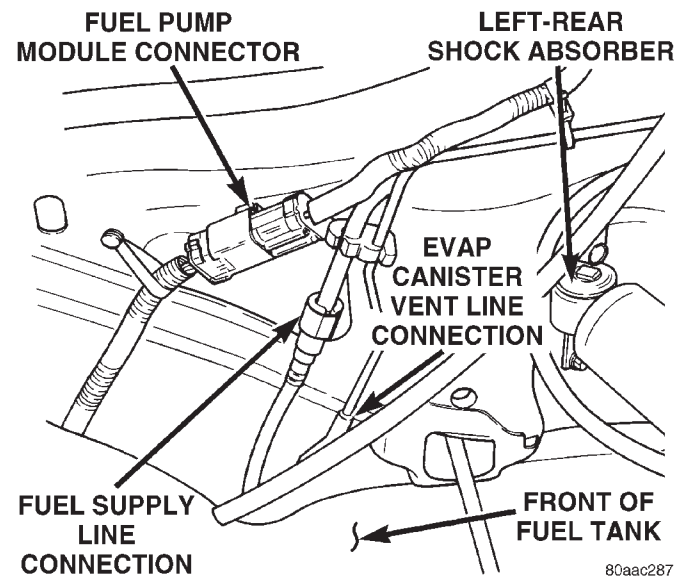

Fig. 29 Fuel Tank Connections at Front of Fuel Tank OPERATION
- (27) Verify good electrical connections at fuel pump module connector at front of fuel tank (Fig. 29).
- (28) Verify good EVAP canister vent line connection at front of fuel tank (Fig. 29).
- (29) Verify good fuel supply line connection at front of fuel tank (Fig. 29).
- (30) Inspect all fuel lines/hoses for cracks or leaks.
- (31) Inspect transmission torque convertor housing (automatic transmission) or clutch housing (manual transmission) for damage to timing ring on drive plate/flywheel.
- (32) Verify battery cable and solenoid feed wire connections to starter solenoid are tight and clean. Inspect for chaffed wires or wires rubbing up against other components.